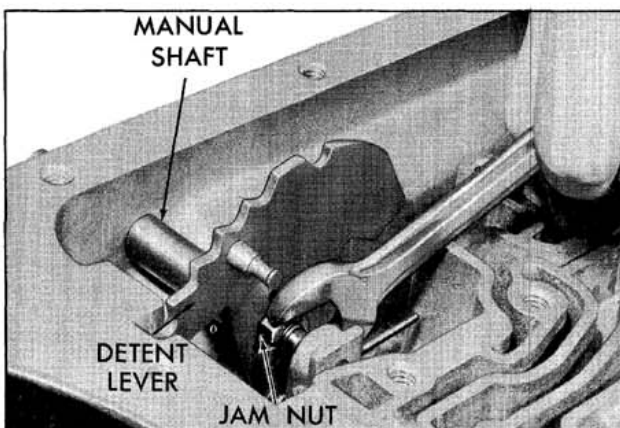

Fig. 6-60 Removing Manual Shaft Nut
- a. Unthread the jam nut holding detent lever to manual shaft. (Fig. 6-60)